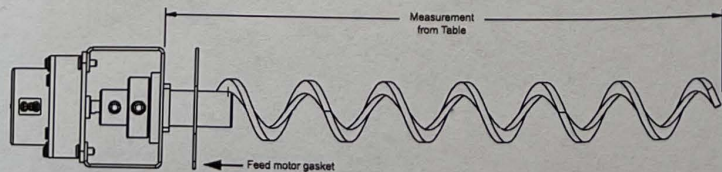

Figure 9
9. Verify measurement of spring length from the bottom of the feed motor bracket to the end of the spring as shown in Figure 9. For the measurement reference Table 1 to the right.